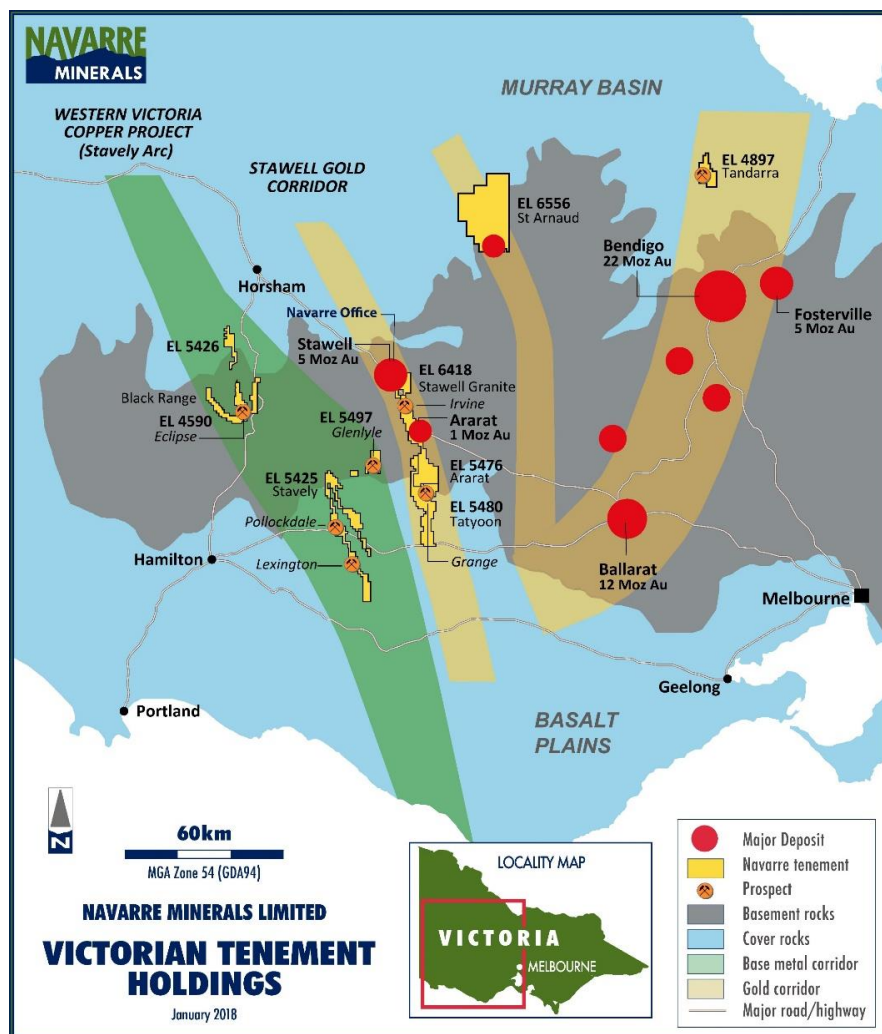

Figure 6: Location of Navarre's Victorian mineral projects
As previously announced, the first pass AC drilling program at the Glenlyle Project comprising 33 holes for a total of approximately 2,100 metres has been completed and all samples have now been dispatched for laboratory analysis (NML ASX release 8 March 2018). The Company advises that the samples are progressing through the assay laboratory and results will be released following receipt and interpretation (Figure 6).
An 8,000 metre program of Diamond (DD) and AC drilling continues to progress at the flagship Irvine Gold Project with two drill rigs targeting the Resolution and Adventure Lode discoveries (Figure 6).
An ongoing 13,000 metre program of DD, reverse circulation and AC drilling continues at the Tandarra Gold Project under the management of Catalyst Metals Limited (**Catalyst**) (Figure 6). Catalyst is funding the Tandarra drilling program under its Farm-in Agreement with Navarre.
Preparations for a 3,000m reconnaissance AC drilling program testing for potential Fosterville-style high-grade gold mineralisation at the St Arnaud Gold Project are advancing (Figure 6). Four targets where the historic St Arnaud Goldfield is believed to project north under shallow Murray Basin cover have been identified for drill testing. Drilling is scheduled to commence in April 2018.
In line with the Company's strategy of targeting gold mineralisation near multi-million ounce gold mines, the Company secured an area of 479km2 surrounding the historic St Arnaud Goldfield (Figure 6). Available data has highlighted considerable potential for a Fosterville-style high-grade gold mineralisation system at the **St Arnaud Gold Project** containing multiple structural targets beneath shallow cover. Four priority, untested, targets have been generated for a reconnaissance AC drilling program.